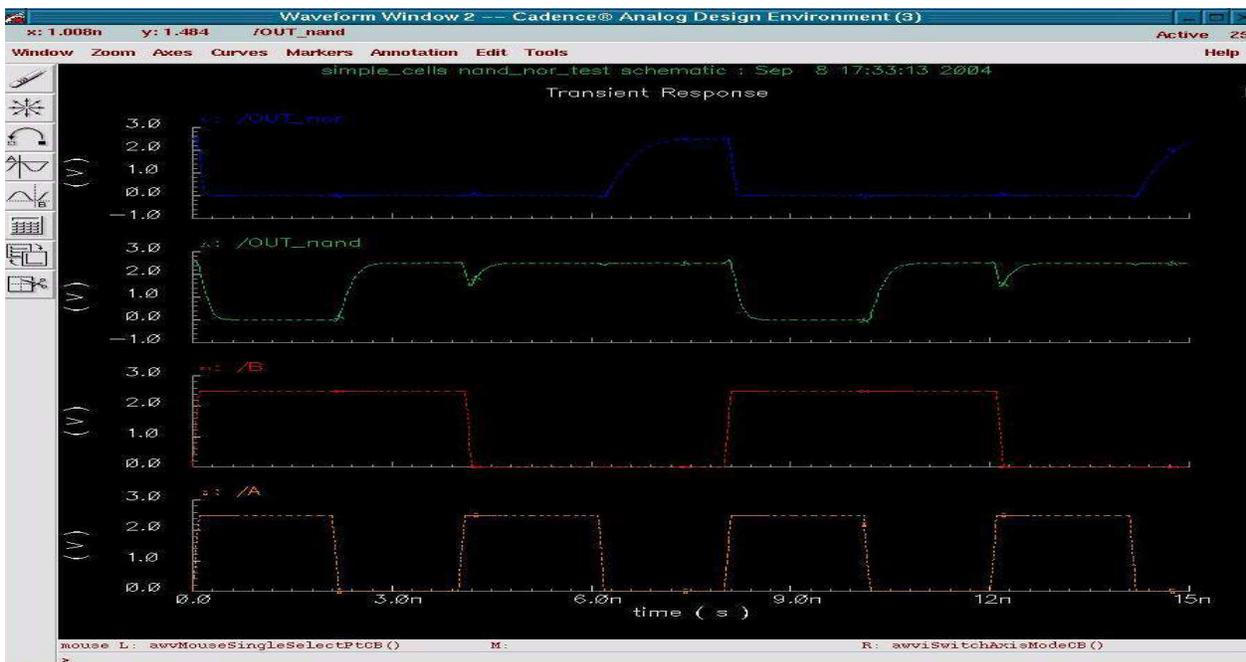

Figure 6: Output voltage waveforms for the nand\_nor\_test SPICE simulation.
7. If everything goes okay, the waveform window should appear. Again, maximize it and click on the 'Switch Axis Mode'. You should see something similar to Figure 6.
8. From the output, you should be able to determine whether or not your nand and/or nor gates are working. In the case of Figure 6, both gates are working since the NOR output is "1" only when both inputs are "0", and the NAND output is "0" only when both inputs are "1". The most interesting features of the output are the output glitches in the NAND output. These transient glitches happened during the input transition where both inputs happen to be high.